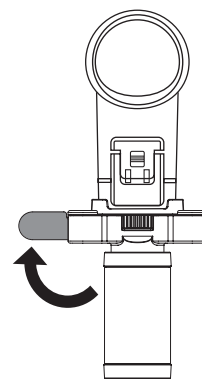

Figure 2
2. Rotate the flap 90 degrees upward. (Figure 2)